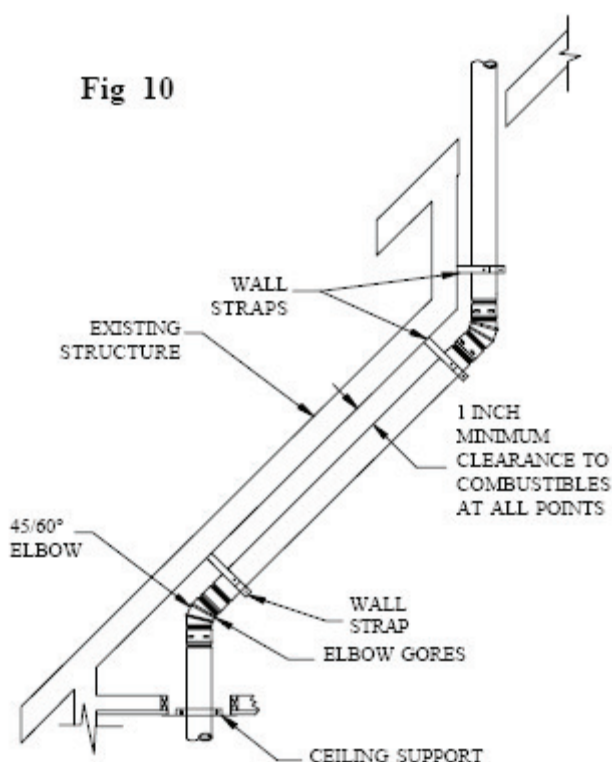

Fig 10
**7. Elbows.** When **Elbows** are required, strap the **Pipe Sections** and/or **Elbows** in place using **Wall Straps**. Support the offset so that the weight of the offsetting pipe is not bearing down on the elbows, as shown in Figure 10.